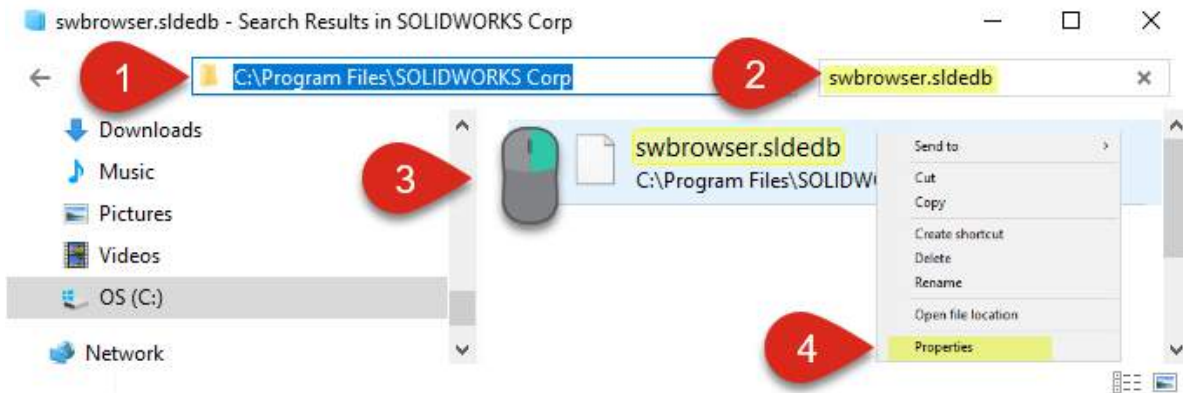

Figure 1
STEP 2: Remove Read-only status of swbrowser.sldedb, if it is Read-only. From SOLIDWORKS Corp folder of the new install version of SOLIDWORKS (Start > Programs > Computer > Local Disk > Program Files > **SOLIDWORKS Corp**), type **swbrowser.sldedb** into search bar on top-right. Then right-click and select **Properties** (Figures 1 and 2):